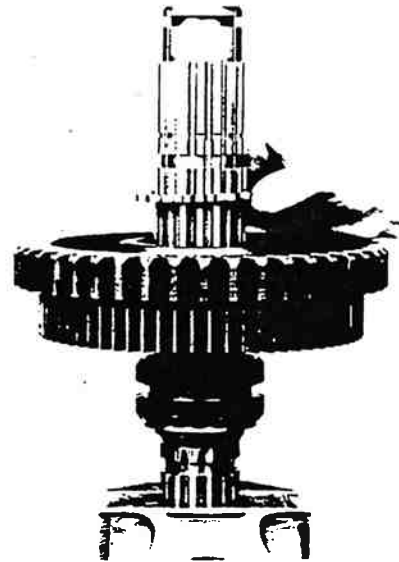

Figure 13-122. Installing Spacer.
8. Install spacer in 1st speed gear, engaging external splines of spacer with clutching teeth of gear (figure 13-122).